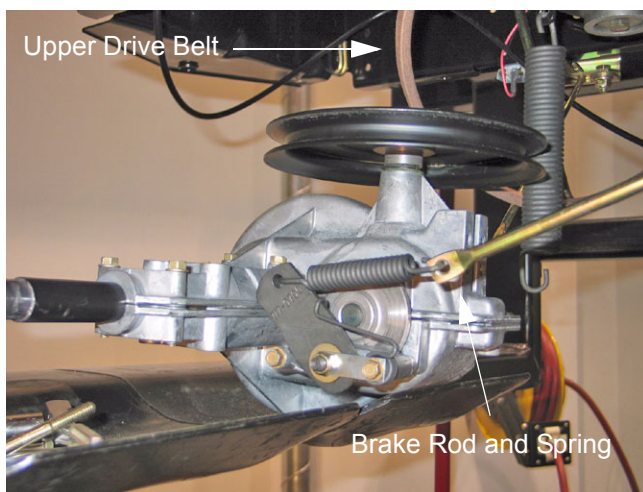

Figure 49
- 11.10. As you remove the transmission, slip the upper drive belt from around the transmission pulley. See Figure 49.
- 11.11. Disconnect the brake rod spring from the brake arm. See Figure 49.